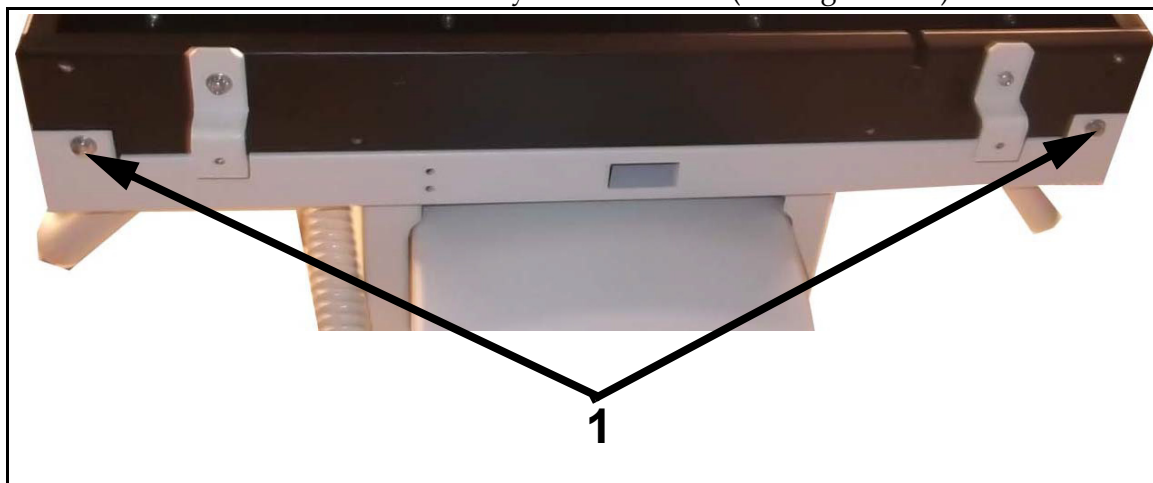

Figure 5-14. Bucky Right Side Screw
- 16** Unscrew the bucky bottom screws (1 in Figure 5-14).